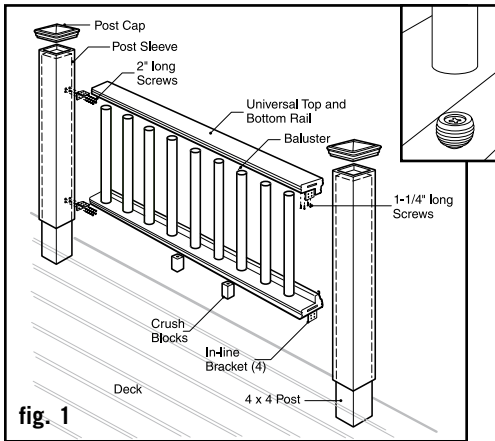
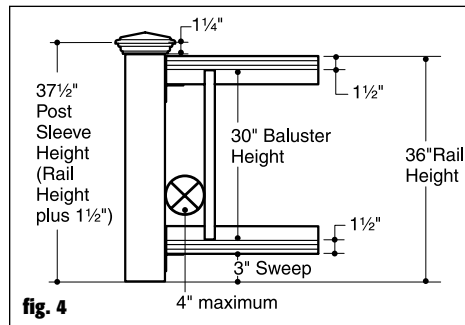

fig. 1
fig. 4
Step 5: Trim 4x4 post sleeves to length. Post sleeves should be a minimum of 1-1/2" longer than the railing height (Figure 4). Example - for a 36" high railing, trim post sleeve to a minimum of 37-1/2"; can be left longer if desired. Slide a trimmed post sleeve over each 4x4 railing post.
Step 6: Measure the distance between installed post sleeves to determine the length of the top and bottom rails. Trim the top and bottom rails to fit. The vertical legs of the rails face outside the deck (Figure 1).
Step 9: Check building codes for a maximum spacing between deck surface and bottom of rail (sweep). Spacing of 3" is recommended but can be more or less if codes allow (Figure 4). Composite balusters or round aluminum balusters may be used for the crush blocks based on preference. Cut two crush blocks to desired height and place equal distance from each post. If using composite baluster crush blocks, glue them to the bottom rail with construction glue. If using round aluminum baluster crush blocks, fasten FastBalls to bottom rail and sleeve crush blocks over FastBalls. (Figure 1)
Step 10: Position the bottom rail between posts. Mark screw locations on-center of post sleeve using the bracket as a template and pre-drill using a 1/8" drill bit. Attach bracket to the post with (4) 2" long screws at one end of bottom rail. Level bottom rail and repeat marking and pre-drilling the post sleeve for the other end. Attach to post with (4) 2" long screws.
Step 11: Determine the length of the balusters (Figure 4). Figure 4 illustrates how a 36" high railing might be sized. Starting with a 3" sweep plus 1-1/2" for the bottom railing, 30" baluster height plus 1-1/2" for the top rail equals a 36" rail height. If these are the dimensions that you are going to use, cut the balusters to 30" length using the miter saw. If you want to have your railing at a different height, use Figure 4 as a planning tool to determine the height to cut the post sleeves and the balusters. Note: Use a fixture to ensure a consistent length (+/- 1/16").
Step 13: Install top rail, fitting balusters on each FastBall connector as you work across. Gently tap the top rail with a rubber mallet to eliminate any gaps. Check for level end to end and vertically. Attach the top rail to the post sleeves. Mark screw locations on post sleeve using the in-line bracket as a template, and pre-drill using a 1/8" drill bit. Attach bracket to the post with (4) 2" long screws at one end. Level and repeat marking and pre-drilling the post sleeve for the other end. Attach to post with (4) 2" long screws.